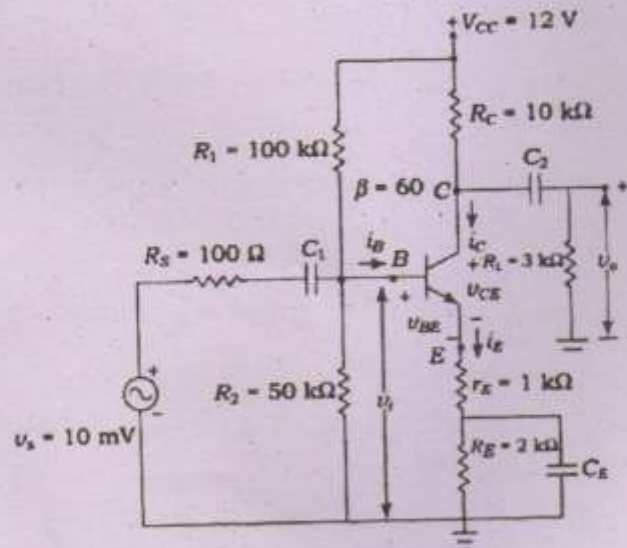

Figure 13(b)
- (b) Figure 13(b) shows a common-emitter amplifier. Determine the input resistance, ac load resistance, voltage gain and output voltage. (13)